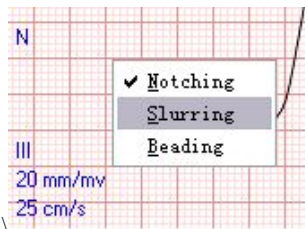

Figure 81
- The statistic table on the left-bottom corner of the screen displays the number of notching, slurring and beading in all 12 leads. Click the right key of the mouse on the waves, the shortcut menu will appear, then click corresponding items to modify wave attribute (As Figure 80). After modifying, your selection will be displayed at the left of waves (As Figure 81), and the number of attribute in the data statistics table will be changed.